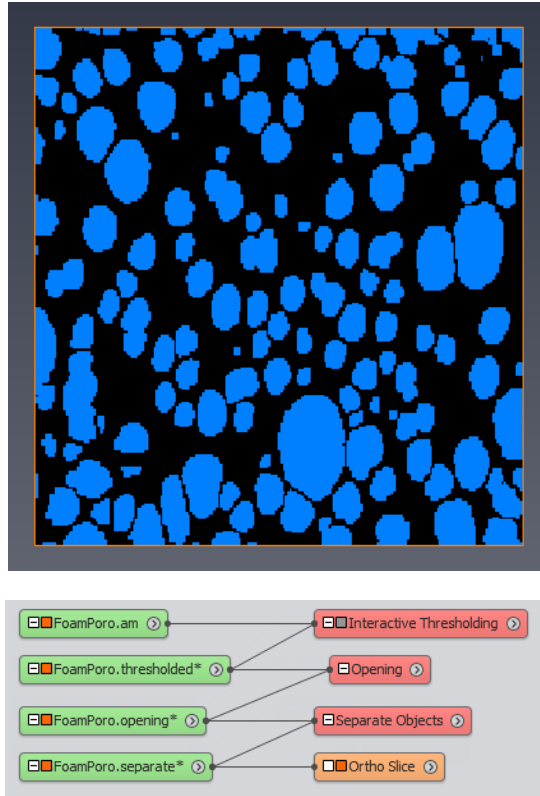

Figure 6.56: Separated pores
- Connect the *Ortho Slice* to the output `FoamPoro.separate` (see Figure 6.56).